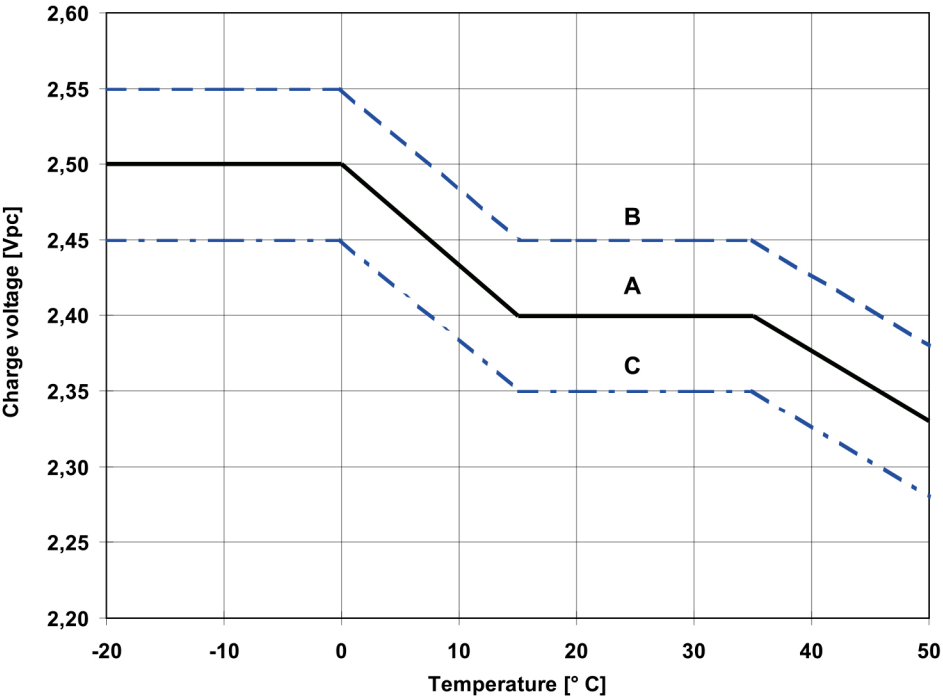

Fig. 1: Charge voltage vs. temperature for solar mode. Charge modes:
Recommended charge voltages for cyclical application: See fig. 1 and item 2.8.
I-phase = up to voltage acc. to fig.1 at 20 °C
I-phase = up to voltage acc. to fig. 1 at 20 °C
When recharging acc. to fig.1 the actual value of the alternating current is occasionally permitted to reach 10 A (RMS)/ 100 Ah C₁₀-capacity. In a fully charged state during float charge the actual value of the alternating current must not exceed 5 A (RMS)/ 100 Ah C₁₀-capacity.
The temperature related adjustment has to be carried out acc. to fig. 1. An adjustment of the charge voltage must not be applied within a temperature range 15 °C to 35 °C.